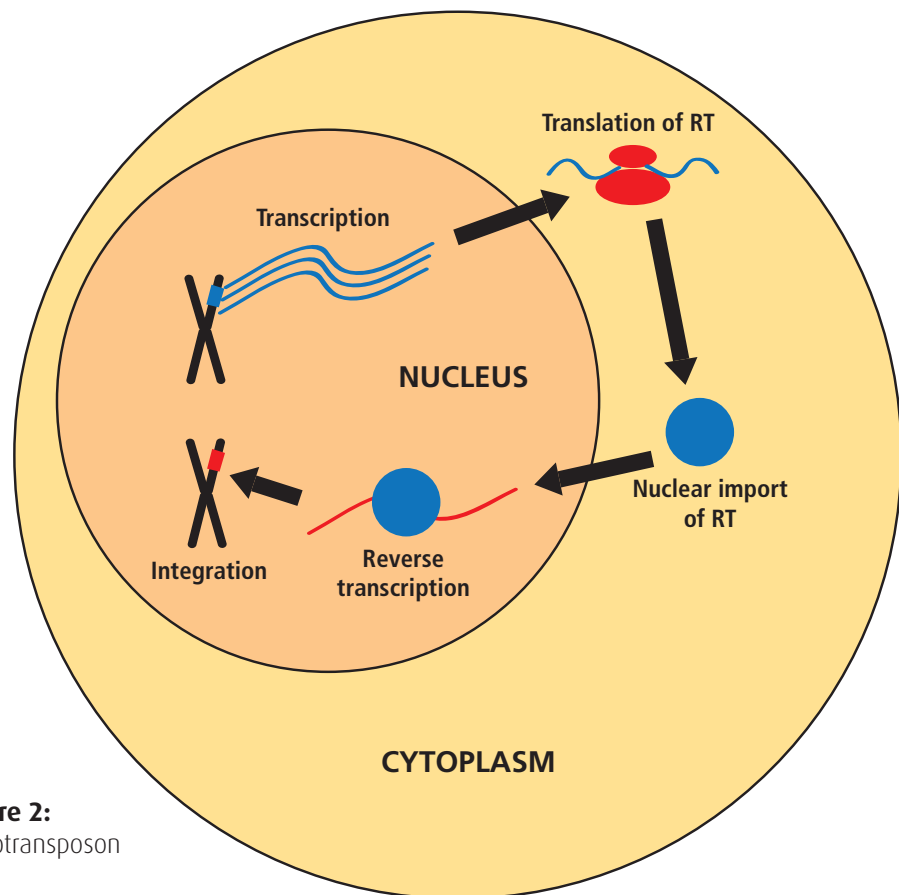

Figure 2:
The *Doc* element belongs to a group of retrotransposons known as long interspersed elements, or LINEs, which are found in abundance in eukaryotic genomes. Like other retrotransposons, the *Doc* element is believed to "hop" through the *Drosophila* genome using an RNA intermediate (Figure 2). In brief, the *Doc* element is transcribed into mRNA using the fly's native DNA polymerase. The *Doc* mRNA codes for an enzyme called Reverse Transcriptase (RT), which can synthesize a strand of DNA using an RNA template. After the RT mRNA is translated in the cytoplasm, the protein is transported back into the cell's nucleus, where it converts the *Doc* mRNA into DNA. The newly synthesized DNA integrates at a new location in the genome, while the original copy of *Doc* transposon remains at the same genomic location. For this reason, eukaryotic genomes often contain thousands of copies of LINE retrotransposons.